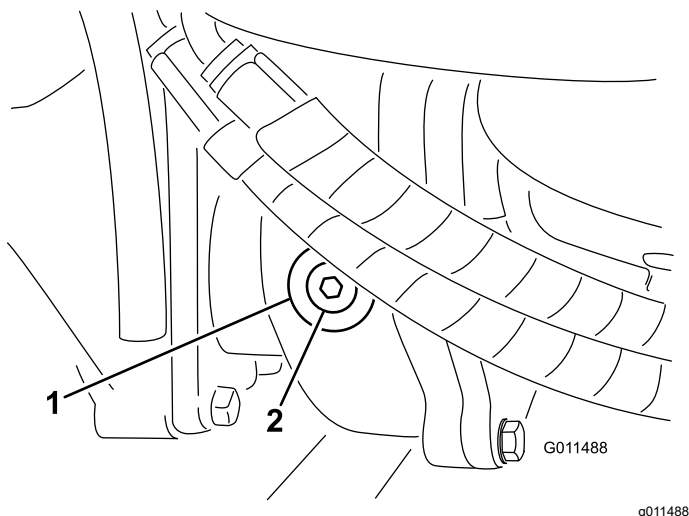

Figure 70
2. Remove the check/fill plug from the left side of the gear box and ensure that lubricant is up to the bottom of the hole (Figure 70).